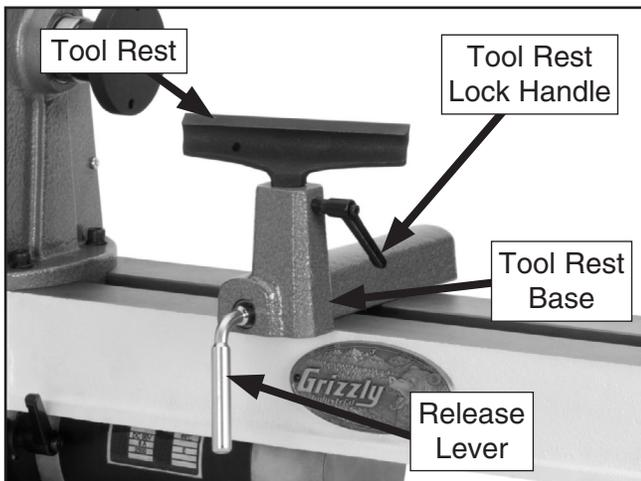

Figure 9. Tool rest positioned.
2. Loosen the tool rest lock handle and rotate the tool rest so that it is positioned parallel to the lathe bed (**Figure 9**).